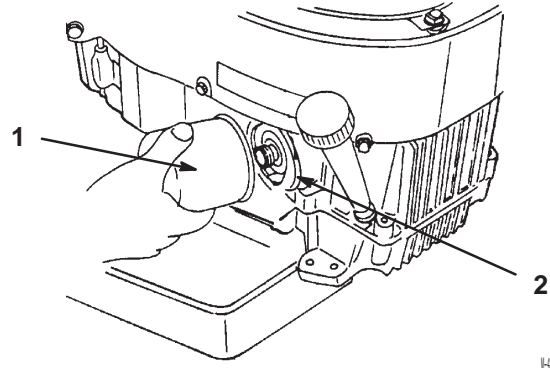

Figure 30
2. Remove the old filter (Fig. 30).
4. Install the replacement oil filter to the filter adapter. Turn the oil filter clockwise until the rubber gasket contacts the filter adapter, then tighten the filter an additional 3/4 turn (Fig. 30).